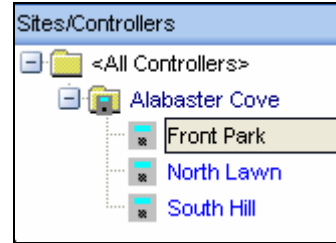

Figure 26.0.3
2. Next Click on a controller from your controller list to highlight it (Figure 26.0.3).